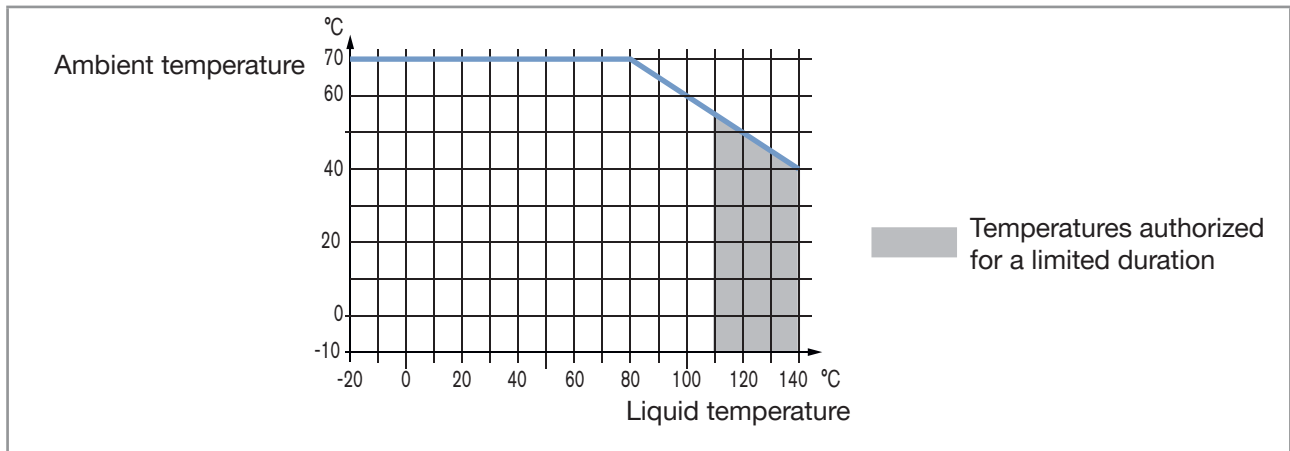

Fig. 9: Dependency between the liquid temperature and the ambient temperature, device variant with two M20x1.5 cable glands and one 5-pin M12 male connector
Ambient temperature	Depends on the liquid temperature (see Fig. 9 or Fig. 10)
• Device variant with two M20x1.5 cable glands and one 5-pin M12 connector	• -10 °C...+70 °C, if the liquid temperature is -10 °C...+80 °C (see Fig. 9) • See Fig. 9, if the liquid temperature is higher than +80 °C
Liquid temperature	-20...+110 °C. Up to 140 °C for maximum 60 minutes for a sterilisation process. Maximum temperature gradient: 10 °C/s [measured by the sensor integrated in the device]. The maximum liquid temperature can be restricted by the ambient operating temperature. Depending on your device variant, see Fig. 9 or Fig. 10.